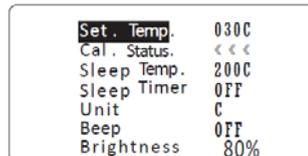

Fig.9
3.5 When Cal. status display "<<<" (see Fig 9.) it means "Real Temp." has calibrated to minimum temperature, can not decrease anymore, but it can increase temperature.